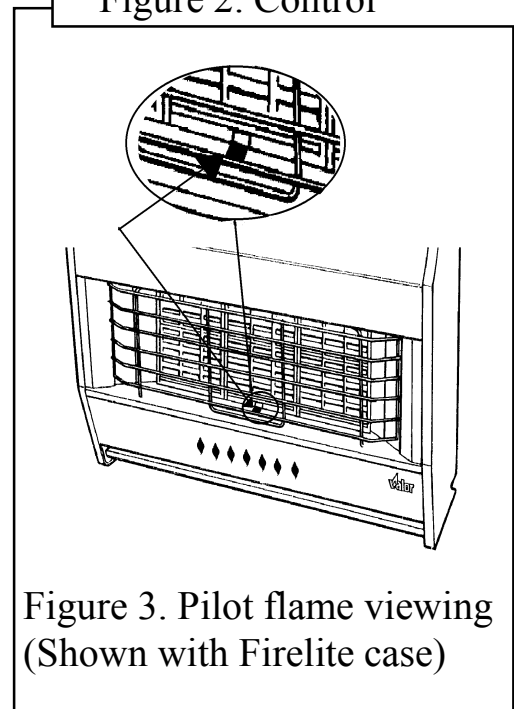

Figure 3. Pilot flame viewing (Shown with Firelite case)
- Depress the control knob and turn anticlockwise towards the 1/IGN position. A spark should be generated at the pilot while turning. The spark should ignite the pilot. **If it does not**, keeping the knob depressed, continue to turn the knob anticlockwise. A **second** spark should ignite the pilot. The pilot flame can be seen through the opening immediately below the centre radiant – See figure 3.
- *While keeping the knob depressed, light the pilot by inserting a long match or taper into the pilot viewing opening (See figure 3).*